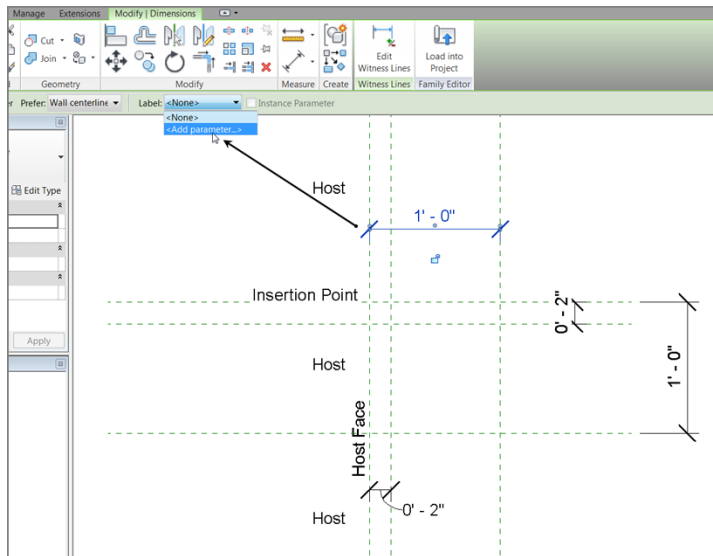

FIGURE 17.6: Choosing Add Parameter on the Options bar
2. On the Options bar, click the Label pull-down menu, and choose <Add Parameter> (see Figure 17.6).